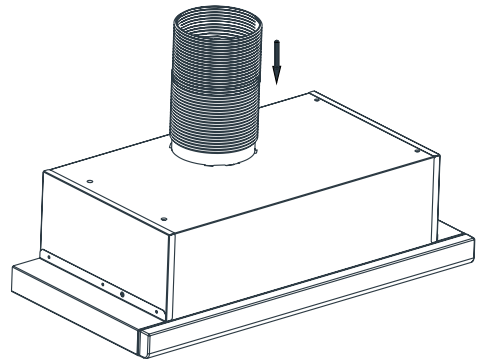

Figure 5
- Install flexible aluminium pipe to plastic flue outlet. Install the other end of the pipe to the flue hole on the wall. (Figure 5)